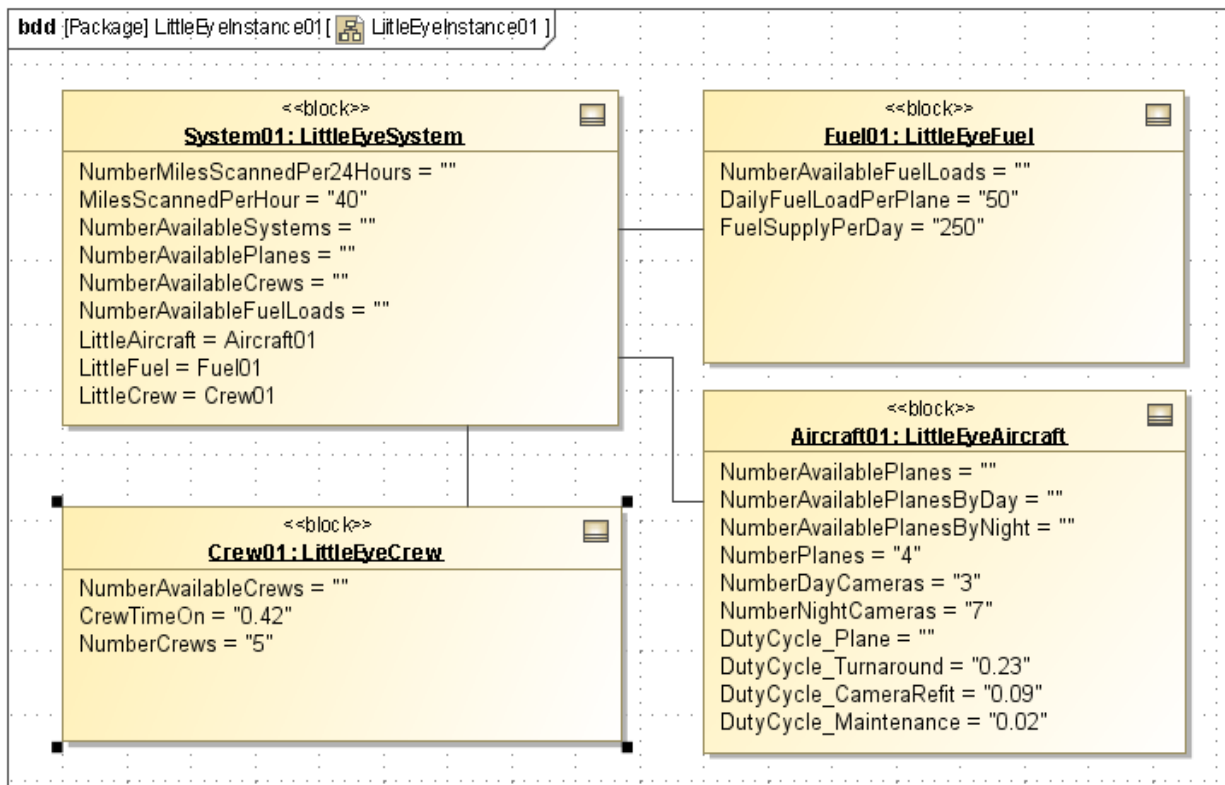

Figure 4.9 Creating an Instance of the LittleEye model
9. Create an instance of the model. The steps are similar to previous tutorials, however, some short-cuts are used. For example, the values of the given are assigned in step d below and most causality tags are set automatically using the “Assign default causalities” utility in step f. Figure 4.9 is an example of an instance. The values for several of the givens are taken from Figure 4.1. Others, such as the **NumberPlanes**, are user-set trial values, which will be varied during the solving operation.